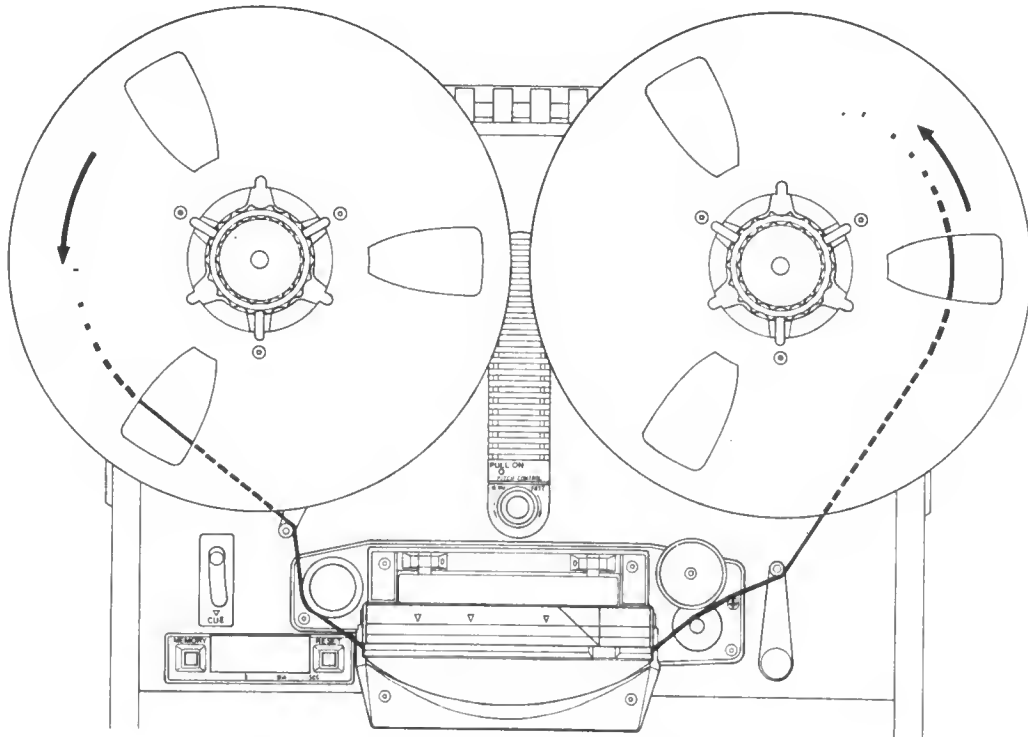

Fig. 3-2 Tape Threading
- (1) Place the POWER switch in the "on" position. The VU meter lights will illuminate.
- (2) If metal reels are to be used, use reel-adjusting discs (shims) between the reels and the turntables. Place a reel of tape on the supply (left-hand) turntable. Note that the reel must turn counterclockwise as tape is pulled off the reel. Place the same size empty reel on the takeup (right-hand) turn-table.
- (3) Thread the tape as shown in Fig. 3-2, and place the end of the tape in the slot of the empty reel.
- (4) Set the HIGH/LOW SPEED switch to the desired tape speed.
- (5) Set the LARGE/SMALL REEL switch to conform to the size of the reel hub diameter being used. Place the switch to the "out" (LARGE position) for NAB hubs (4-1/2 inch diameter) or to the "in" (SMALL position) for EIA hubs (2-1/4 inch diameter). (THE SAME SIZE REELS SHOULD BE USED ON BOTH TURN-TABLES.)
- (6) Set the reproduce head selector switch (Index No. 17 in Table 3-1) to the appropriate position as determined by the track format of the tape to be reproduced.
- (7) If desired, connect a headset or monitor speaker/amplifier to the PHONE jack.